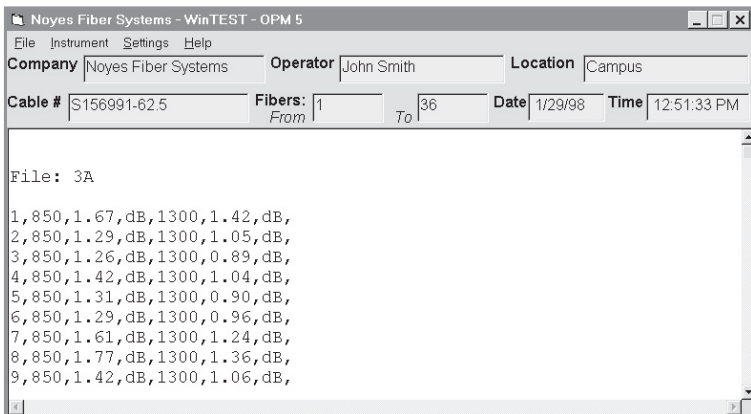

Figure 2
- 3 WinTest will begin to transfer all stored reports from the test instrument. When complete, WinTest will display the test wavelength and loss measurements as shown in the scroll area of Figure 2. The format of the information displayed in this area depends on the instrument type.